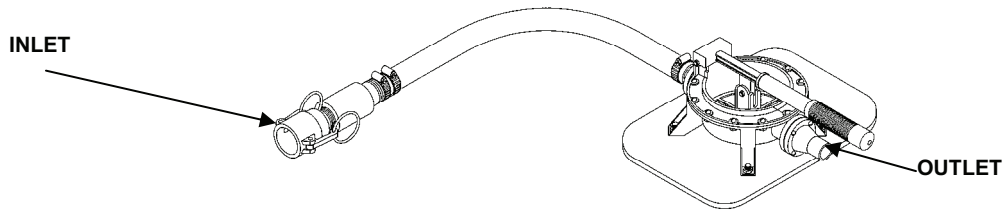

Figure 9. Hand-Powered Priming Pump.
1. Ensure that the inlet and outlet connections are clean on the priming pump. See Figure 9.